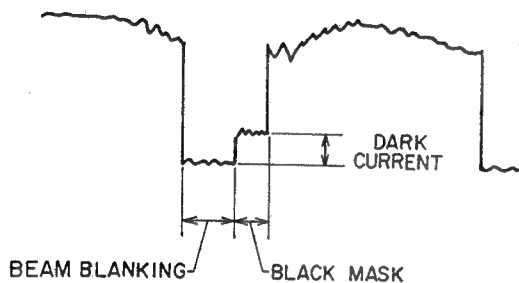

Fig. 5-18
The reverse current (I_{sh}) of a photodiode increases in step with the increase of incident light. (See Figure 5-18.) If the amount of incident blue (OUTDOOR) light increases, the output voltage ($I_{sh} \times R_2$) at pin ⑥ of IC1 increases. (See Figure 5-19.) This voltage is routed through a voltage follower (IC2) and is then compared in a comparator (IC6) with the output voltage derived from the incident red (INDOOR) light. In this case, since the blue (OUTDOOR) detection level is higher, the output at pin ① of IC6 goes to "H" and TR14 is activated. Pin ⑩ of IC7 also goes to "H" and then pin ⑨ goes to "L". As a result, R80 goes to GND and the gain of the RED stimulation amplifier is increased. In this manner, the differ-